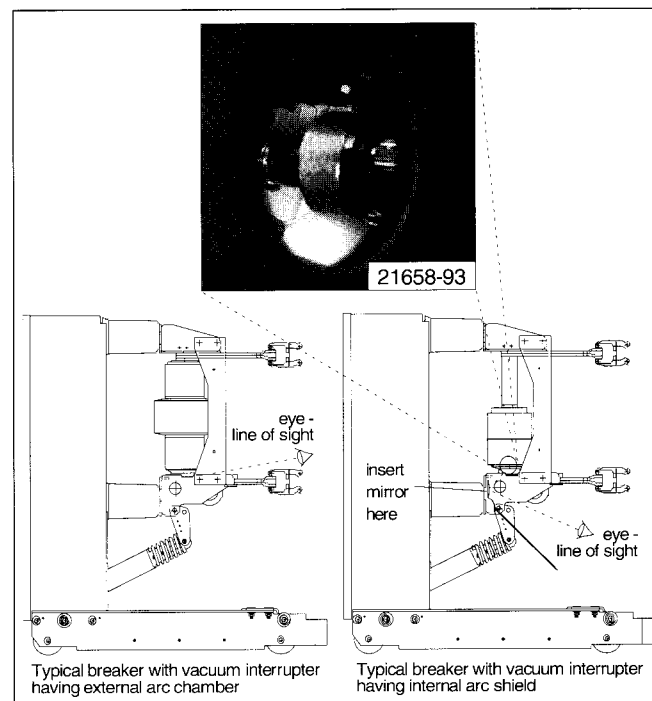

Figure 36: Contact Erosion Check Mark.
of acceptable contact condition is checked by the visibility of the white erosion mark shown in **Figure 36**. The white erosion mark is located in the keyway (or slot) on the movable stem of the vacuum interrupter, near the plastic guide bushing.
- Observe the white erosion mark (**Figure 36**) of each pole. When this mark is visible, contact wear is within acceptable limits. For some circuit breakers (with a vacuum interrupter having an internal arc shield), a flashlight and dental mirror will be needed to observe the white erosion mark.